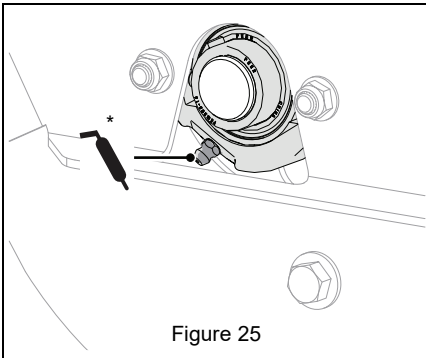

Figure 25
1. Apply grease to fittings located on brush shaft bearings. See Figure 25.